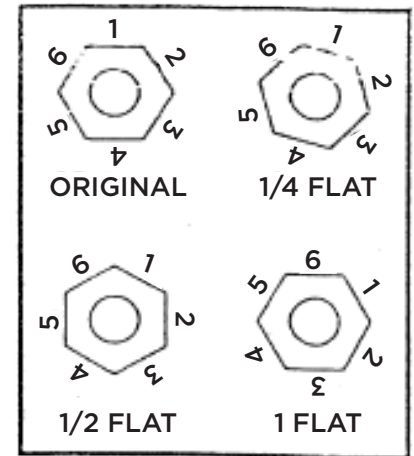

Figure 7
6 Once the roll teeth touch, turn the nuts (9) IN about 1/4 to 1/2 flat on the nut. (See Figure 7).